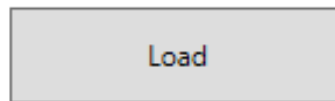

Figure 7-5 Load Button.
2. Load the films into the Film Analysis Software by clicking the **Load** button (see Figure 7-5).